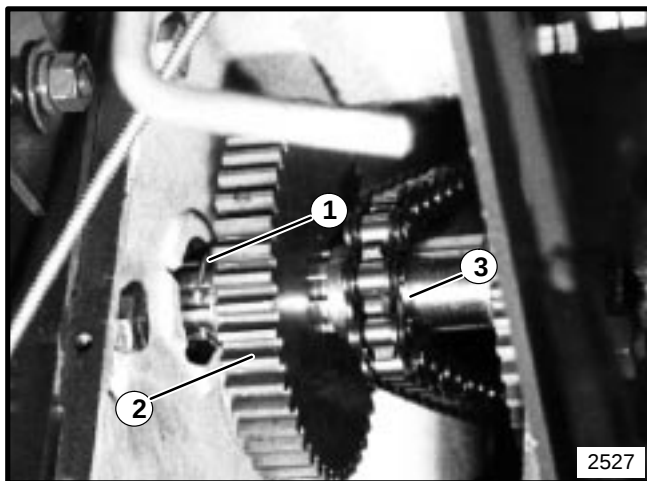

FIGURE 38
3. Remove snap ring from groove on shaft and slide gear toward the outside of the unit. See Figure 38.